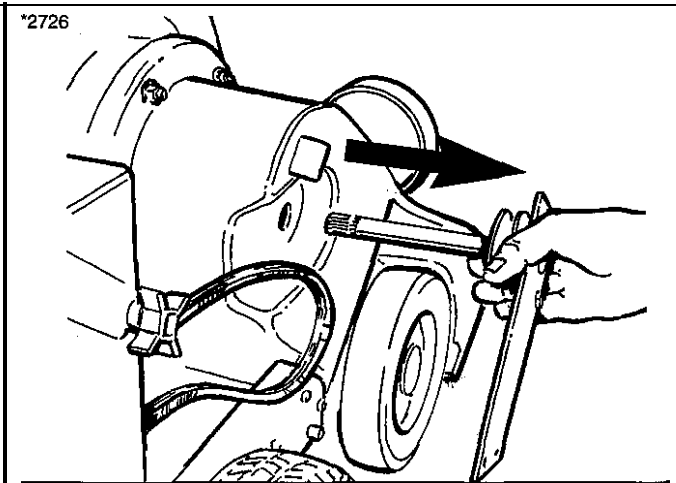

Figure 21. Pull Drive Pulley Bearing Plate Assembly Out Of Vacuum Nozzle Housing
6. Continue pulling the drive pulley bearing plate straight out, and remove it from the vacuum nozzle housing. Note that the shaft end is splined to mate with the splined hub assembly on the rotor (Figure 21).